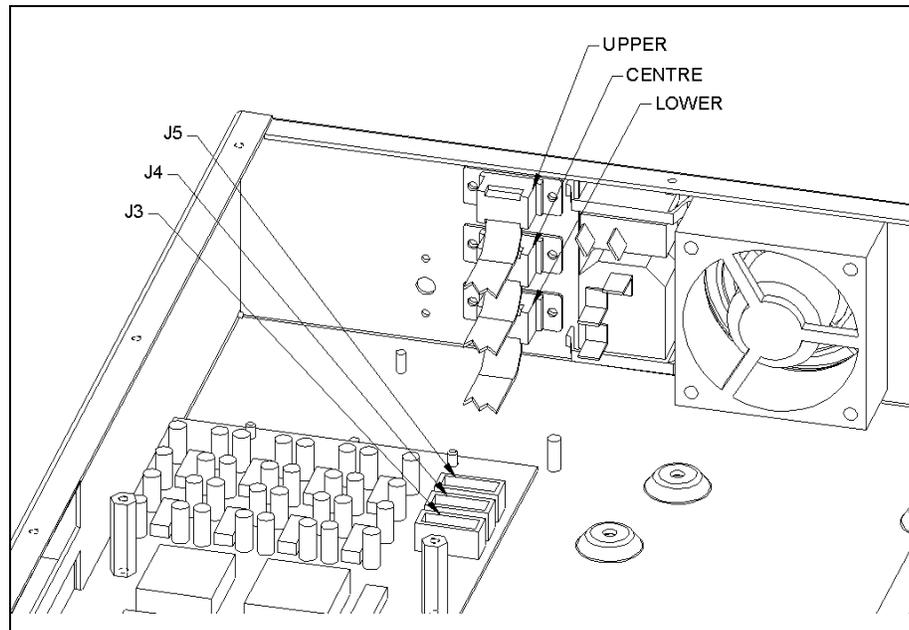

Figure 17-11 Connectors between Communication Board and Side Panel
- 4 Disconnect the three communication cables that connect the communications board to the right side panel (Figure 17-11).